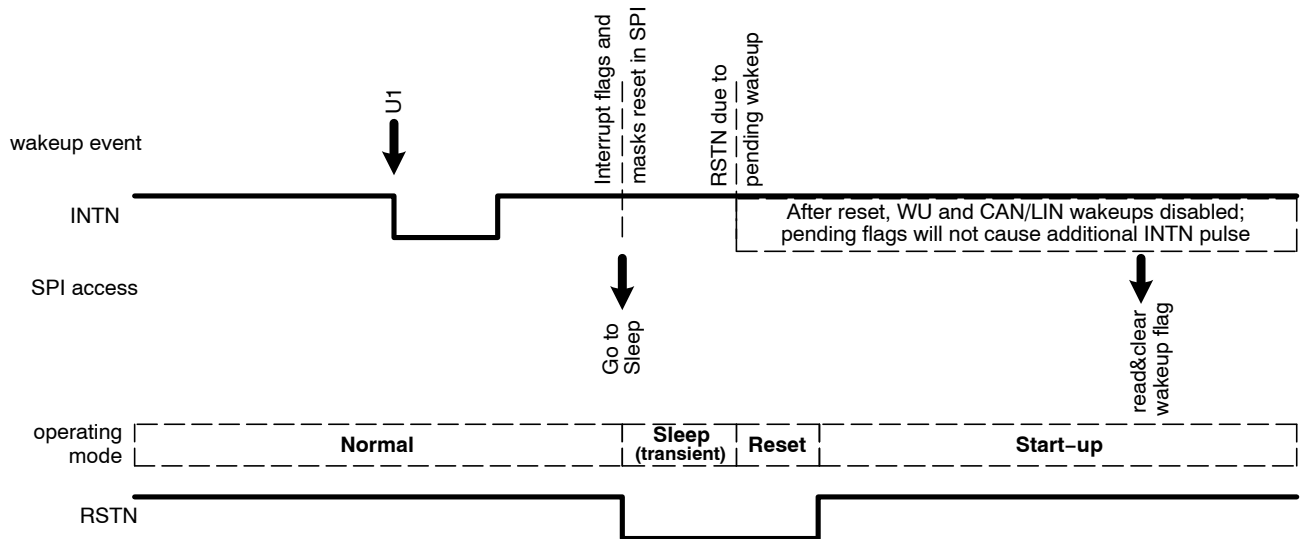

Figure 17. Attempted Transition to Sleep Mode with a Pending Wakeup Flag
- If Sleep mode is requested while a wakeup flag is pending, the chip immediately performs a “wakeup from Sleep” mode sequence – see Figure 17. In this way, the information on the pending wakeup is not missed by the application.